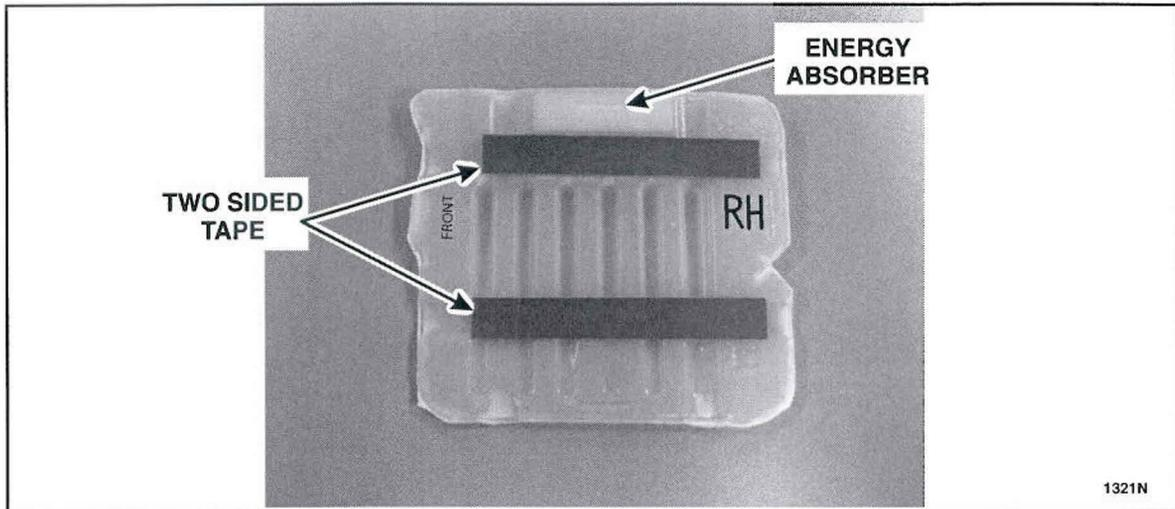

FIGURE 14
18. Cut each length of the supplied two sided tape in half (two pieces per energy absorber). Remove the backing off of one side of the tape and apply to the RH and LH energy absorbers. See Figure 14.
NOTE: The energy absorbers have "RH" and "LH" designations stamped on them. There is also a stamping that indicates the "Front" direction on each headliner support. See Figure 14.